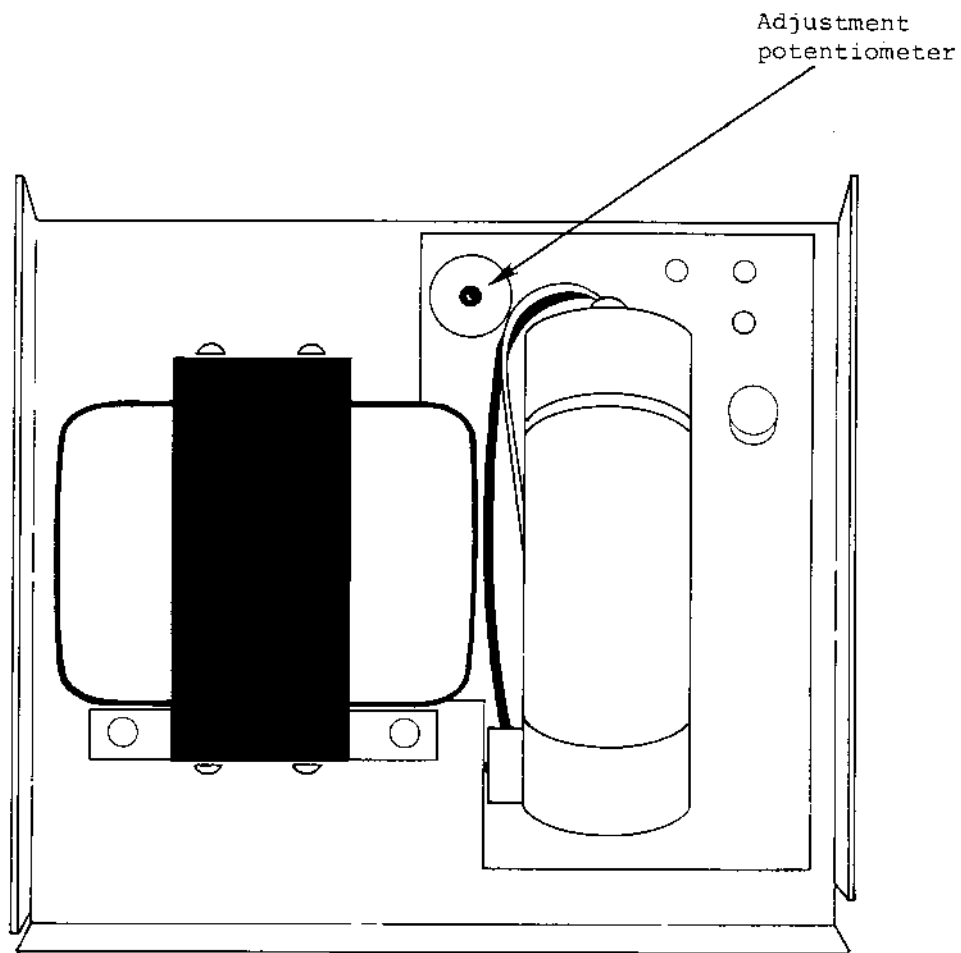

Figure 3. Power Supply Adjustment
2. Adjust the power supply potentiometer for $+5.0 \pm .1$ VDC, figure 3.